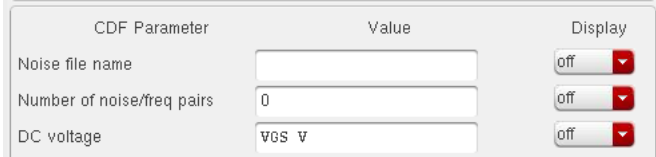

Figure 1.7: DC source parameter setup.
- Edit each of your voltage sources (click on it and press **q**) to specify the DC voltage as a variable as shown in Fig. 1.7. In that way, the voltage of your sources are defined as global variables and you will be able to directly modify them later in your simulation.